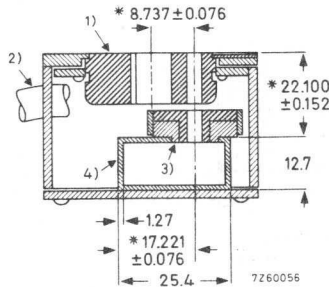
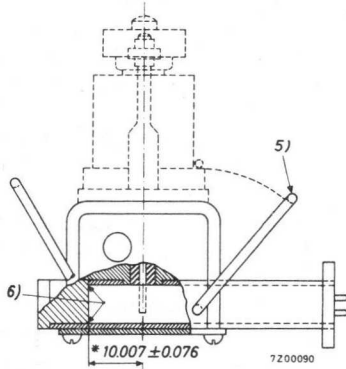

Fig.1 Cross section of the mount (coupler)
Fig. 2 Side-view of the mount
For good broadband performance the tube should be inserted in a suitable mount. The mount recommended is shown in Fig. 1. It consists of a section of 3 cm waveguide (RG-52/U; outside dimensions 25.4 x 12.7), shortcircuited at one side, into which the aerial of the tube penetrates. The position of the aerial with respect to the waveguide is shown in Fig. 2.
* See under Fig. 1